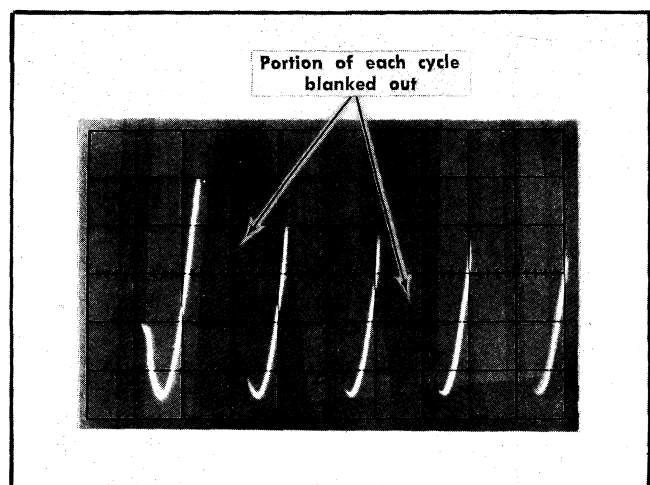

Fig. 5-5. External blanking check, typical display.
d. CHECK—CRT display for blanking of a portion of each cycle (see Fig. 5-5). The INTENSITY control may require resetting to show the blanking.